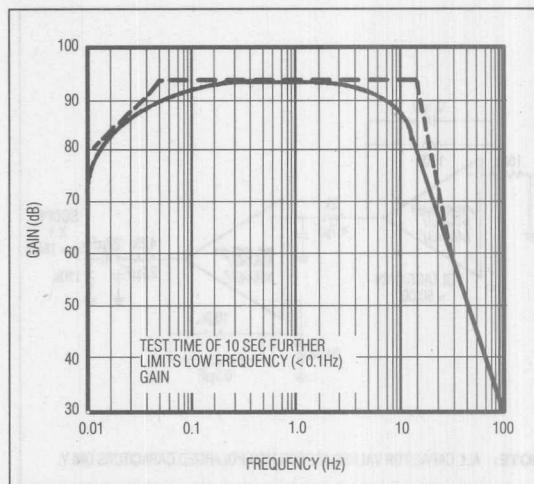

Figure 6. 0.1Hz to 10Hz $V_{\text{OS-p}}$ Noise Tester Frequency Response
3. As shown in Figure 6, the 0.1Hz corner is defined by only one zero. A maximum test time of 10sec acts as an additional zero to eliminate noise contributions from the frequency band below 0.1Hz.